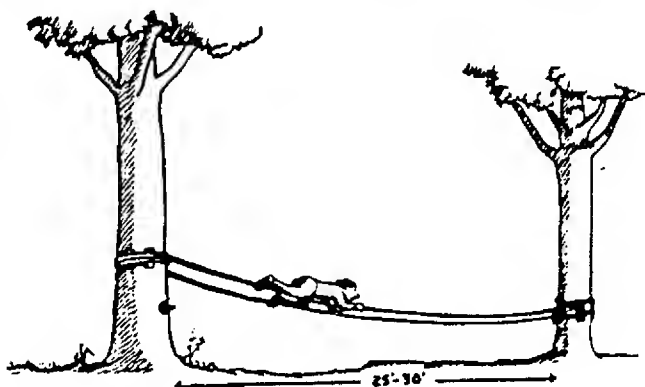

Figure 419 The Kitten Crawl
42. The Kitten Crawl: Tie a taut rope around two trees about 25 to 30 feet apart. Have the rope about 3 to 4 feet above the ground. The object is for each member of the group to crawl along the two ropes from one end to the other as shown in Figure 419.